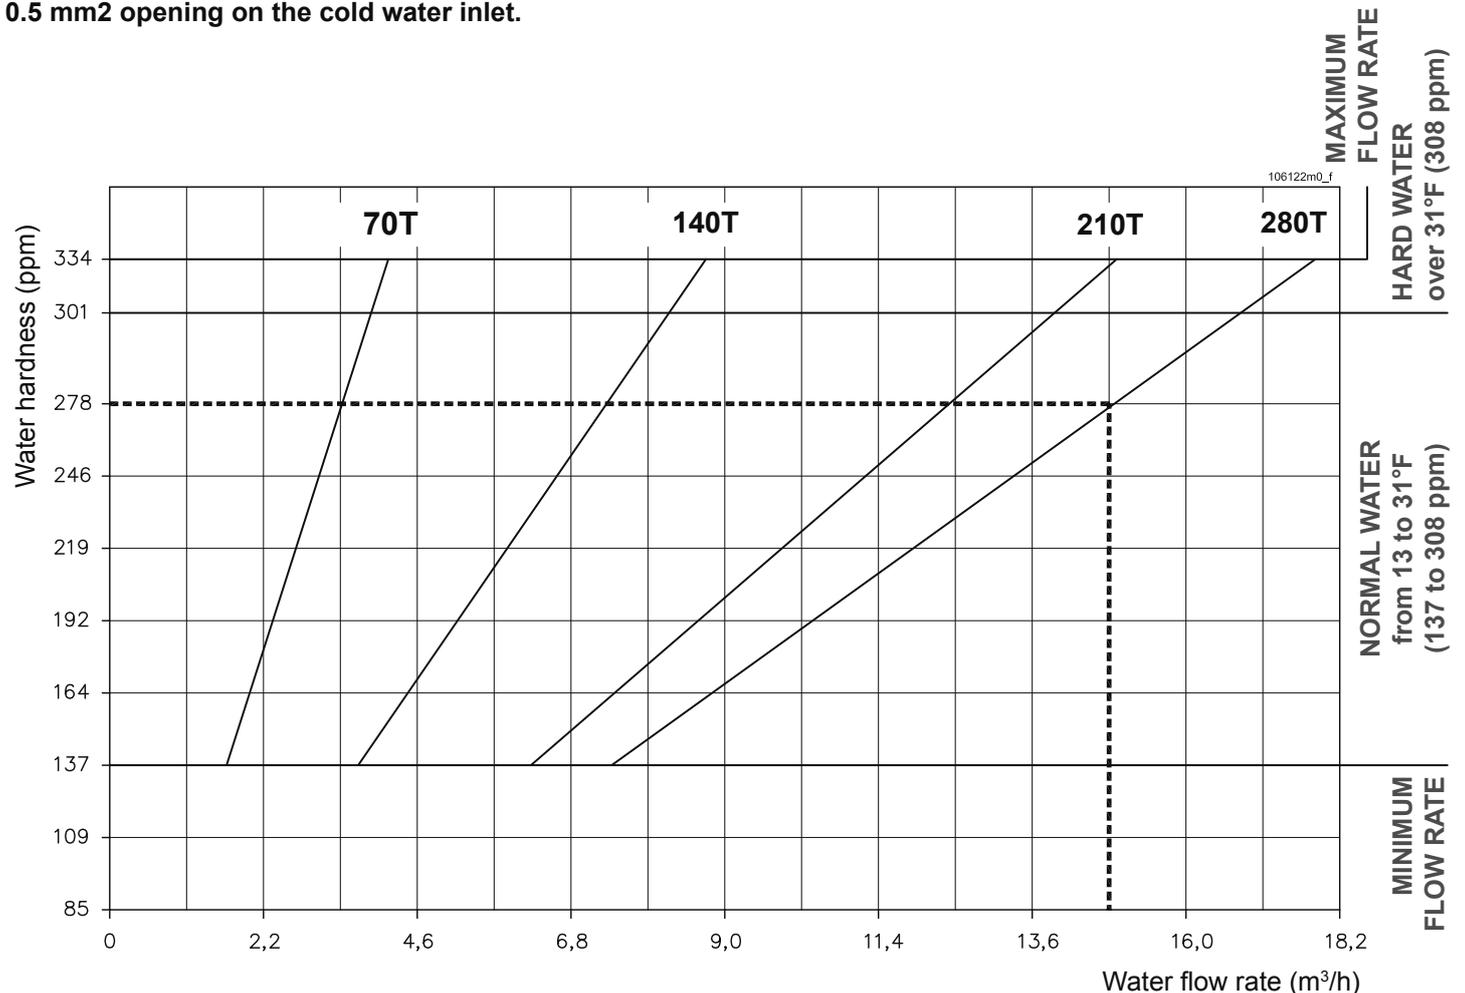

Figure 11-5 - Minimum and maximum flow rate limits inside the water heater according to water hardness
**ATTENTION !!!** The system should be sized to achieve a minimum flow rate to the water heater relative to water hardness (Figure 11-5) to prevent limescale deposits inside the heat exchanger.
Figure 11-5 also shows an example of how to interpret the graphic: if you have a 280T model water heater and the water hardness is 278 ppm, the minimum water flow that must go through the water heater is approximately 15 m3/h. The curves corresponding to each water heater model all end around 334 ppm of hardness.